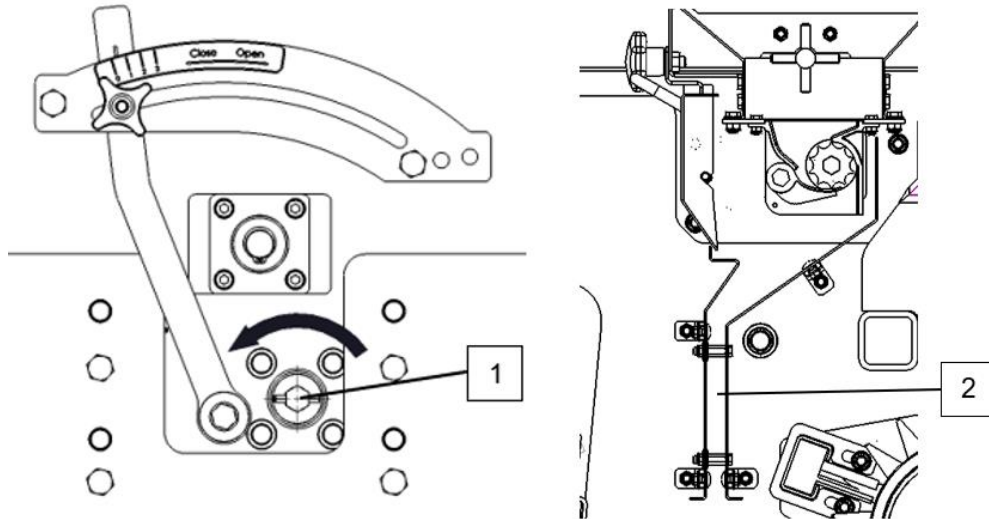

Fig. 5-1
Rotate the shaft in the direction indicated by the arrow. (See Fig. 5-1)
- Check that the seed passage (2) is not blocked. (Fig.5-1)